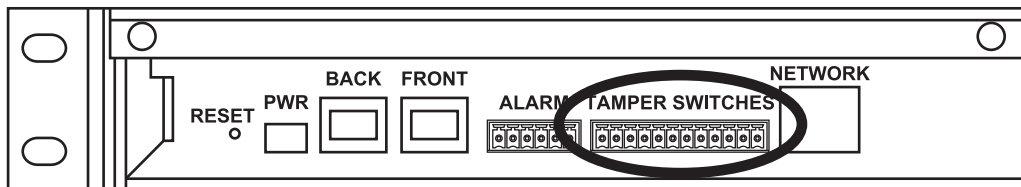

Figure 17. Door contacts.
- Pins 9 thru 12 are used for the door contacts, as shown in Figures 17 and 18.